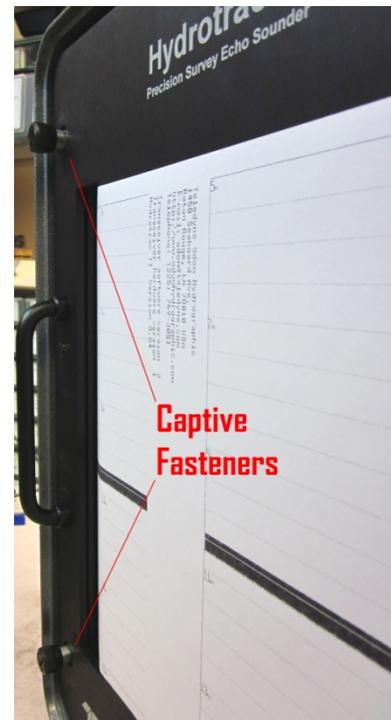

Figure 3.2
Step 1: In order to gain access to the paper supply and re-wind areas, open the chart panel by unscrewing the two black captive fasteners at the extreme left of the front panel (Figure 3.2). Open the panel by pulling the handle at the left side of the front panel until the support arm engages a stop.